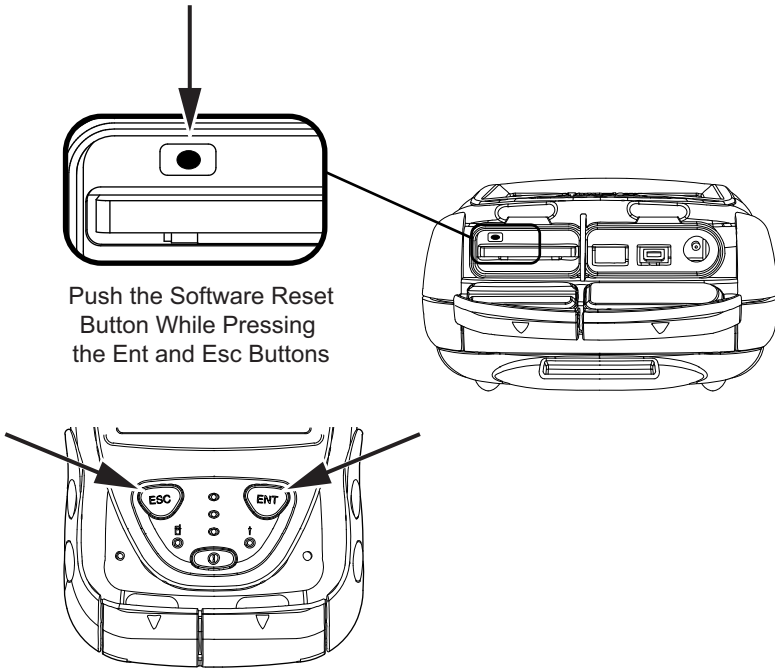

Figure 7-2. Resetting the Hardware
To perform a hardware reset (Figure 7-2 on page 7-4):
2. Simultaneously hold the ENT and ESC buttons while pushing the software reset button with the stylus pen for ten or more seconds (Figure 7-2). The unit turns off.